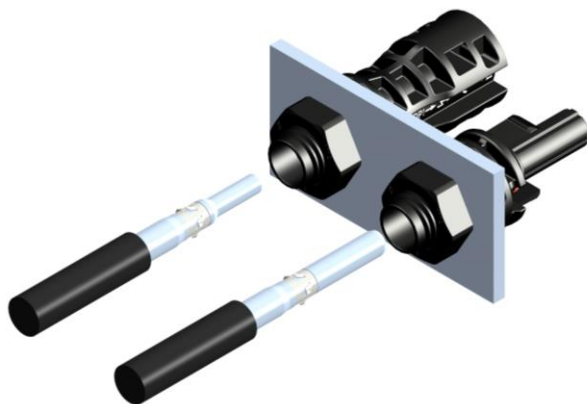

Figure 18
- ✧ 压接好的插针/插套插入到公端面板连接器/母端面板连接器内，直至其啮合（如图 18）。轻轻拉动导线，检查金属件是否啮合牢固（如图 19）。
Insert the crimped male or female terminals into corresponding male or female panel connectors separately until they engage (Fig.18). Pull lightly on the lead to check that the metal part has engaged. (Fig. 19).